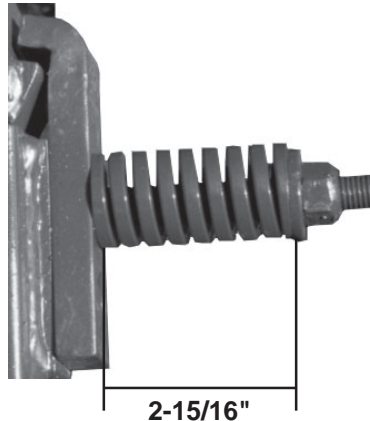

Figure 12
When the mower meets an obstacle during operation, the break away latch will release and allow the mower to swing back in order to minimize damage. The break away can be adjusted to release at higher or lower forces by changing the compression on the Break Away Spring (T). (See **Figures 12 & 13**.)